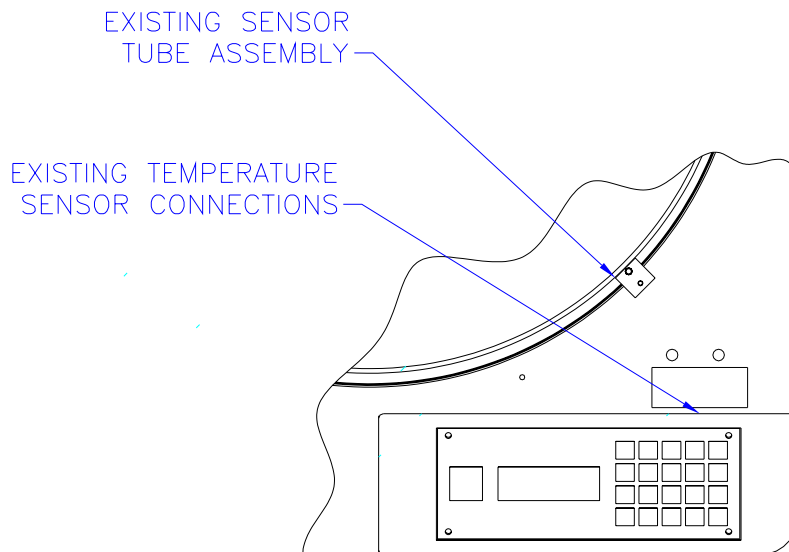

**Figure 1, EXISTING REAR CONTROL PANEL AND PLUMBING REFERENCE FOR XLC 500/1200 FIRST GENERATION (ROUND CORNER CABINET)**
3. Remove the rear control panel from the cabinet. Reference Figure 1.